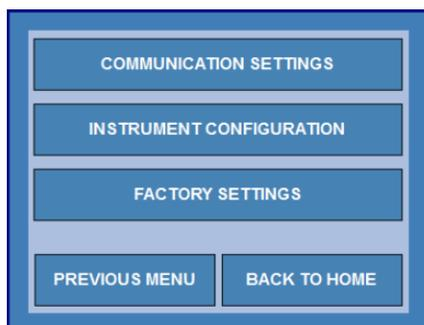

Figure 10-54 - Instrument Configuration
- 5) After the configuration settings have been restored you will see the screen shown in figure 10.54 below. Click the **OK** button. The restore is finished.